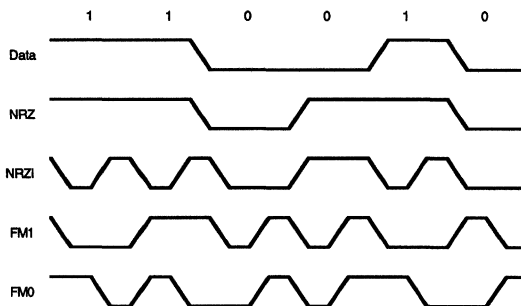

Figure 11. Data Encoding Methods
**Data Encoding.** The ESCC may be programmed to encode and decode the serial data in four different ways (Figure 11). In NRZ encoding, a 1 is represented by a High level and a 0 is represented by a Low level. In NRZI encoding, a 1 is represented by no change in level and a 0 is represented by a change in level. In FM1 (more properly, bi-phase mark), a transition occurs at the beginning of every bit cell. A 1 is represented by an additional transition at the center of the bit cell and a 0 is represented by no additional transition at the center of the bit cell. In FM0 (bi-phase space), a transition occurs at the beginning of every bit cell. A 0 is represented by an additional transition at the center of the bit cell, and a 1 is represented by no additional transition at the center of the bit cell. In addition to these four methods, the ESCC can be used to